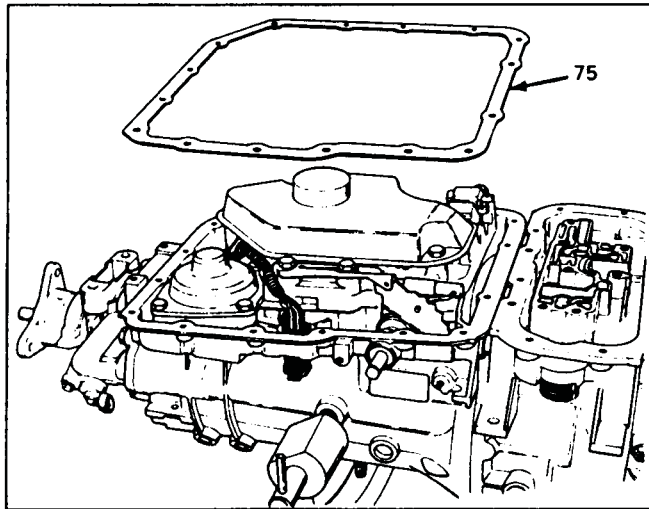

Figure 133
22. Install the bottom pan to main case gasket, as shown in Figure 133.